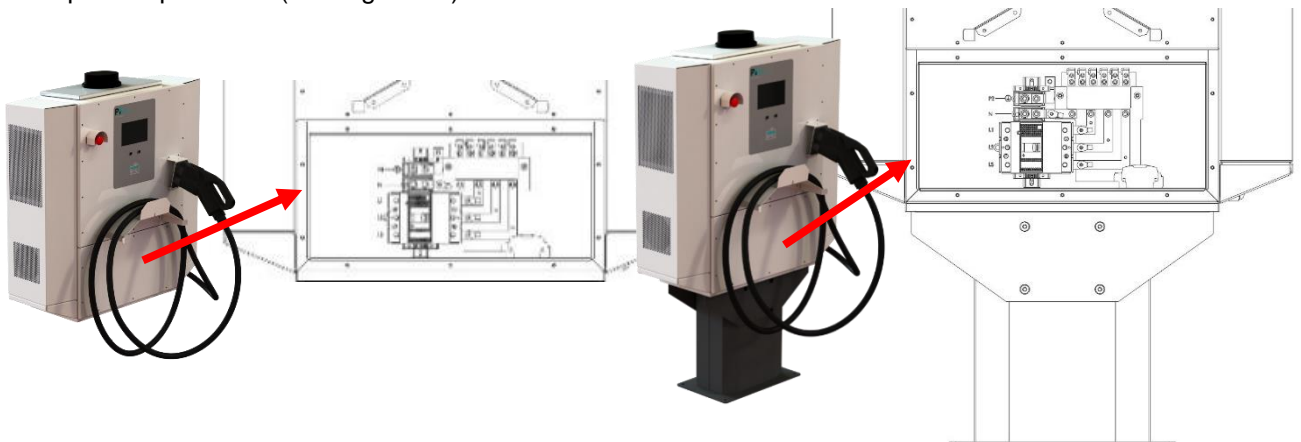

Figure 28—Opening AC Service Panel by removing screws around panel's perimeter
2. If AC Service Panel is closed, open it using a T25 Torx t-handle screwdriver to remove all screws around the front panel's perimeter (see Figure 28).